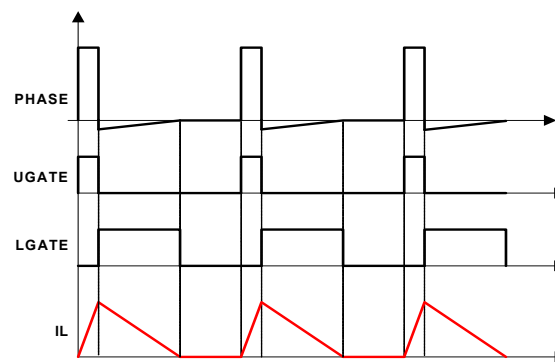

FIGURE 28. DIODE EMULATION
The R3™ modulator can operate in Diode Emulation (DE) mode to increase light-load efficiency. In DE mode the low-side MOSFET conducts when the current is flowing from source-to-drain and does not allow reverse current, emulating a diode. As shown in Figure 28, when LGATE is on, the low-side MOSFET carries current, creating negative voltage on the phase node due to the voltage drop across the ON-resistance. The IC monitors the current by monitoring the phase node voltage. It turns off LGATE when the phase node voltage reaches zero to prevent the inductor current from reversing the direction and creating unnecessary power loss.
If the load current is light enough, as Figure 28 shows, the inductor current will reach and stay at zero before the next phase node pulse and the regulator is in Discontinuous Conduction Mode (DCM). If the load current is heavy enough, the inductor current will never reach 0A and the regulator is in CCM although the controller is in DE mode.